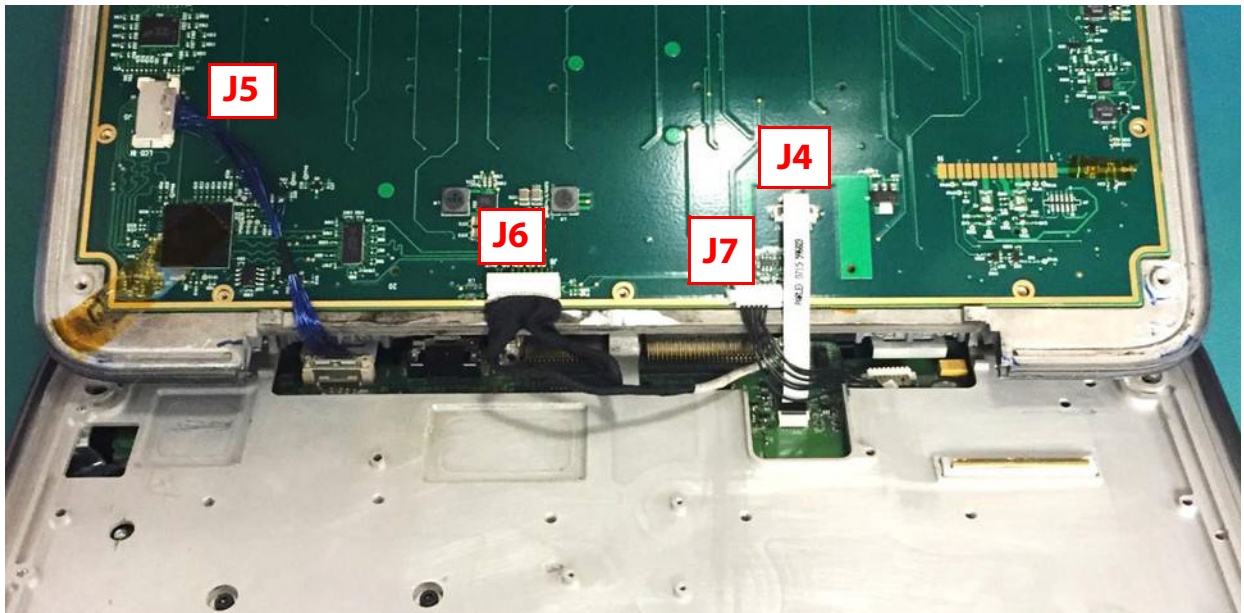

Figure 6.5 Control Panel Removal
- 6 Expose the underside of the Control Panel by lifting from under the front edge and hinge via the top edge toward the LCD display per Figure 6.5.
- 4 Connect the J6 "LCD OUT", J5 "LCD IN", and J7 "BL IN" cables as shown in Figure 6.5.